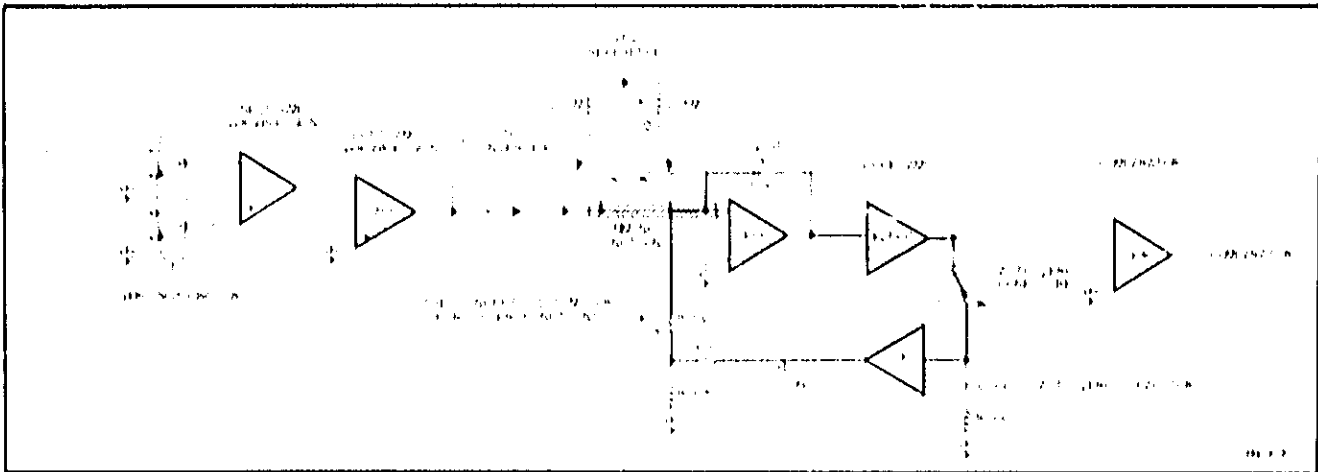

Figure 4-7. Auto-Zero Loop For =V Function.
**4-31.** Refer to Figure 4-7. The reference current  $I_R$  is switched to the summing junction of the Integrator and a voltage-to-current feedback path is switched to the summing junction from the Slope Amp output. The Auto-Zero Capacitor (A9C700) stores the feedback current as a charge which is the controlling input voltage to JFET A9Q700A, a voltage controlled current source. The resulting feedback current  $I_{AZ}$  serves to adjust the balancing current  $I_R$  such that the Integrator summing junction is current-nulled, which means no current flows through the Integrator Capacitor. The concept, which is illustrated for the DCV function is similar in other functions, the only differences being in the definition of "a zero input condition". For the voltage functions (DCV & ACV) this is a 0 V input to the Input